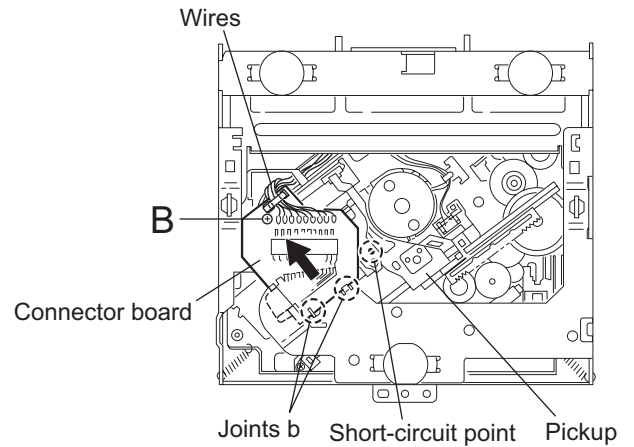

Fig.3
(See Figs.3 and 4)**
- (1) Remove the two screws **A** on the both sides of the main body. (See Fig.3.)
- (3) Release the two joints **d** and two joints **e** on the both sides of the main body. (See Fig.3.)
2.2.2 Removing the connector board (See Figs.3 to 5)